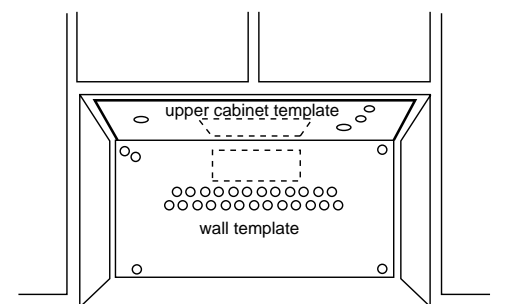

Figure 22
- Measure the bottom of the upper cabinet frame. Trim the edges **A**, **B**, and **C** on the upper cabinet template so that the template will fit on the bottom of the upper cabinet. If upper cabinet has a recessed frame, trim the template so it fits inside the recessed area. Align the centerline of the upper cabinet template with the centerline of the wall template, then securely tape or tack the upper cabinet template in place. See Figure 22.